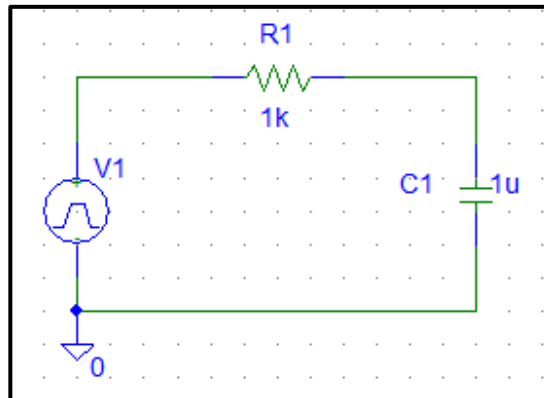
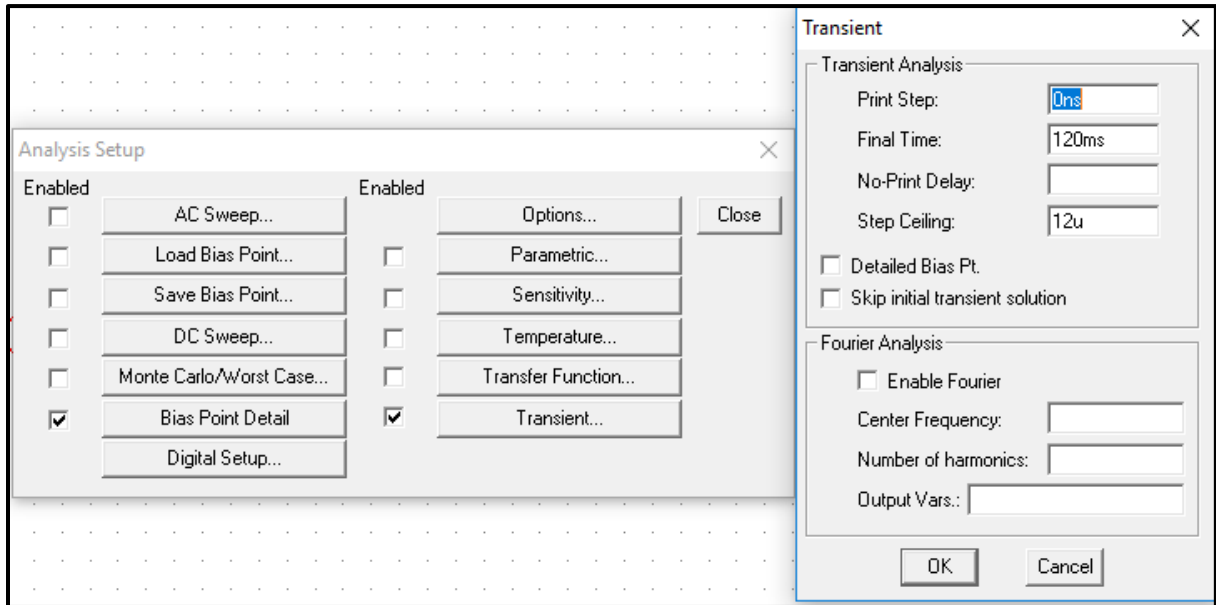

Figure.37
Figure.40
- The circuit shown in figure.37 contains a square wave source which is a function of time, so we will use transient analysis.
- To perform a transient analysis for the circuit of figure.37, click on the “setup analysis” icon and select “Transient”, the window in figure.40 will show up.